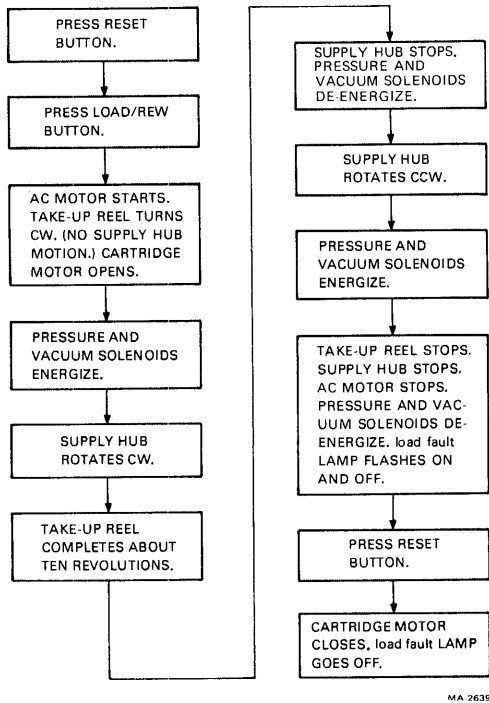

Figure 2-15 Load Sequence Without Tape
**2.5.1.2 Load Sequence Without Tape** – With no tape reel mounted on the supply hub, follow the instructions and check for the events specified in Figure 2-15.